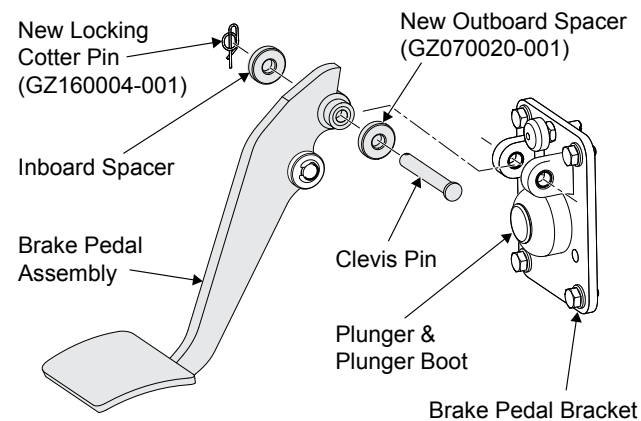

Figure 3
5. Install the new outboard spacer (GZ070020-001) onto the clevis pin (See Figure 3).
7. Reinstall the inboard spacer that was removed in step 3 (See Figure 3).